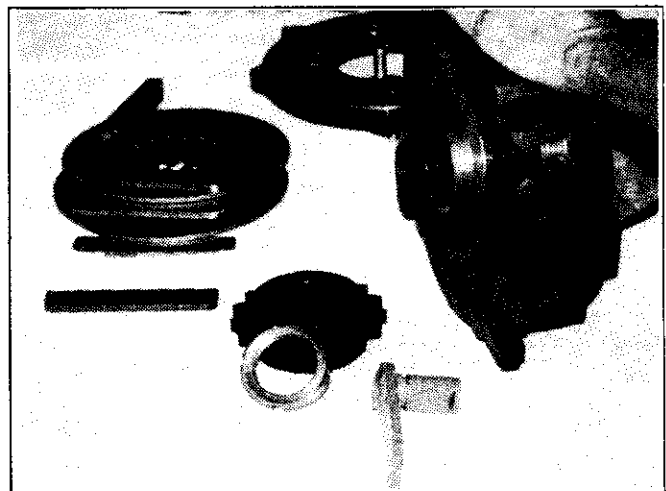

Figure 6-3
9. Remove four (4) 1/2 inch flanged nuts securing the brake housing to the chain case and remove brake housing from machine
11. Remove input shaft through brake housing area. (See figure 6-3)